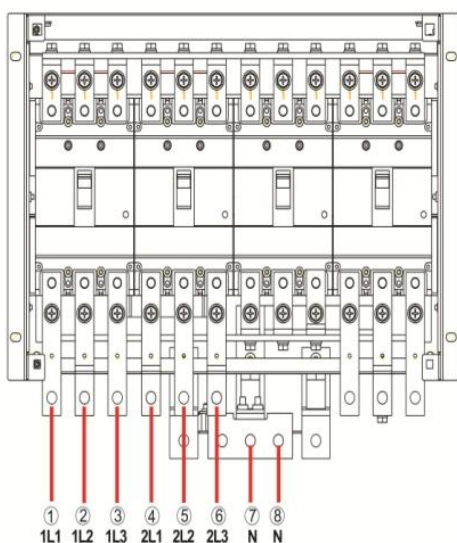

Fig.3-18 Connect the AC input cable
Step 3: Connect the bypass input cables to the bypass power distribution terminals 2L1, 2L2, 2L3, and 2N in sequence, as shown in Figures 3-18 and 3-19. Before powering on, please use a multimeter to confirm that there is no short circuit between each phase of the terminals.